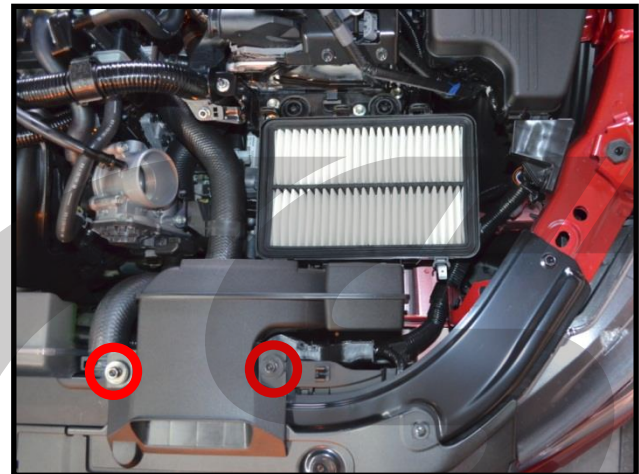

Figure 1g
- g) **Remove two (2) 10mm bolts** that hold the lower air box (red circles in Figure 1g) and remove it from the car. Simply pull up.